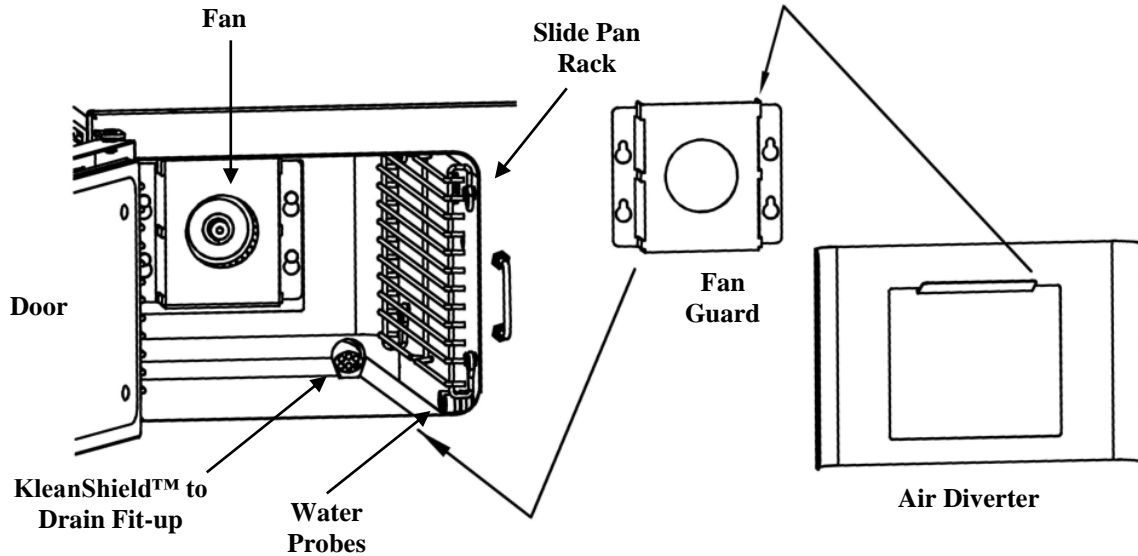

Figure 3-8
Note: See Figure 3-8.
- c. Pull it down so that the narrow ends of the slots are pulled tight over the mounts. See Figure 3-8.
1. Each slide rack has four loops: two at the top and two at the bottom. Hold the slide rack so the ends of the hanger loops are towards the cooking compartment wall, as shown in Figure 3-8.